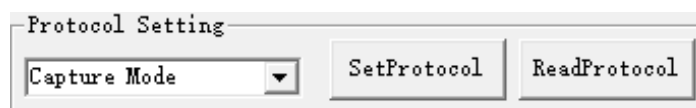

Figure 18 - Capture Mode setting
- 4) Set the radar into the *Capture Mode*: The radar working mode is set to *Capture Mode*, as shown in Figure 18